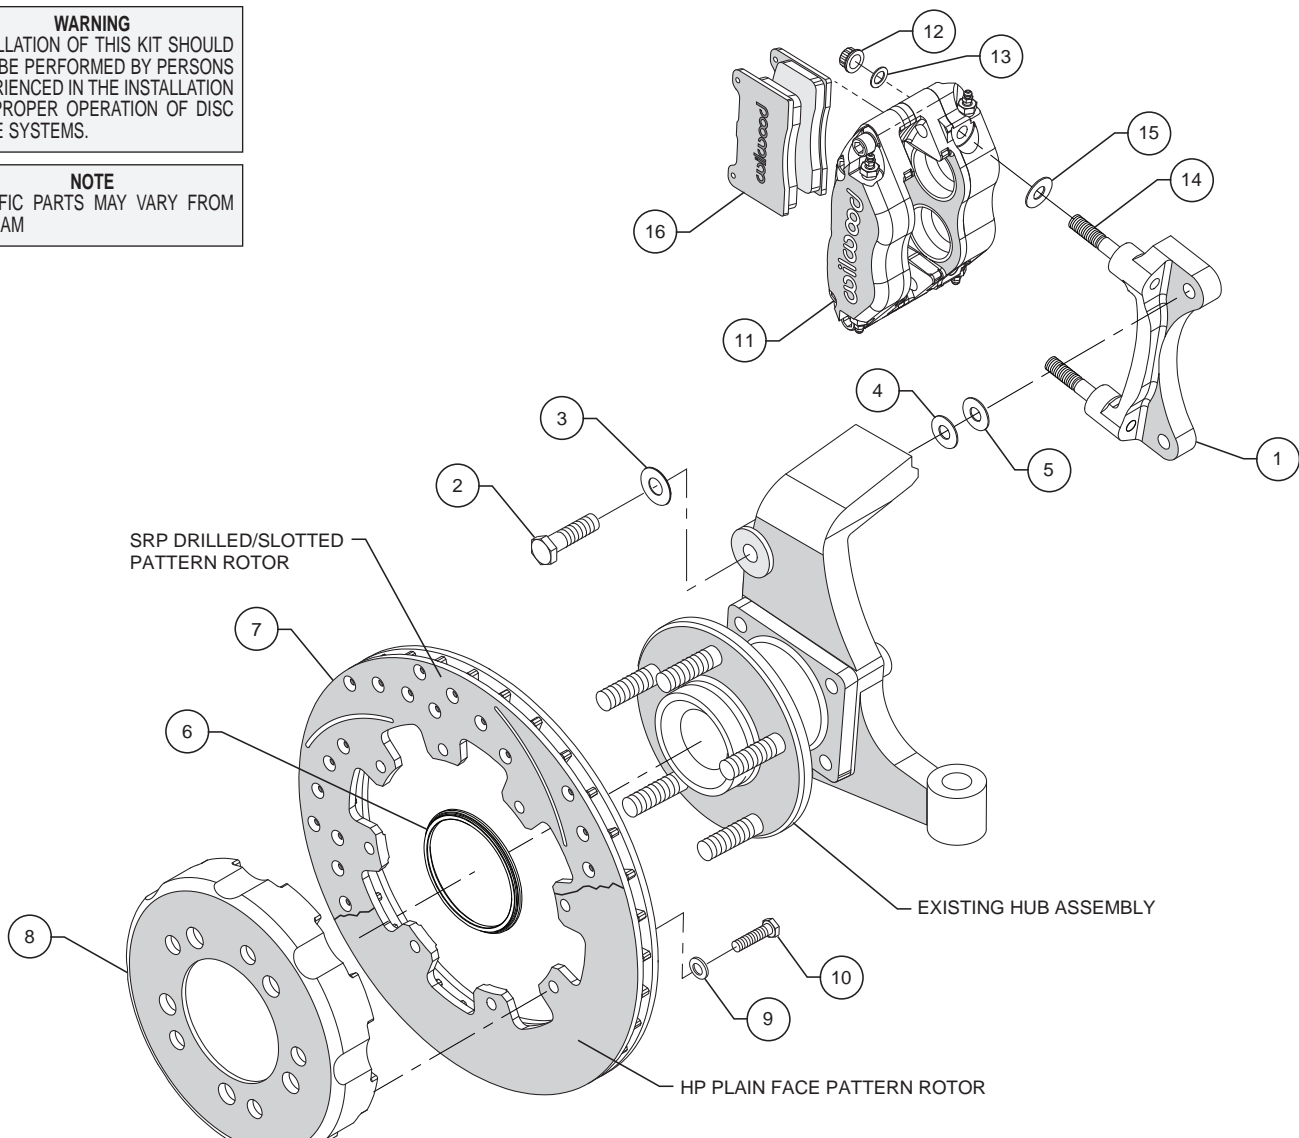
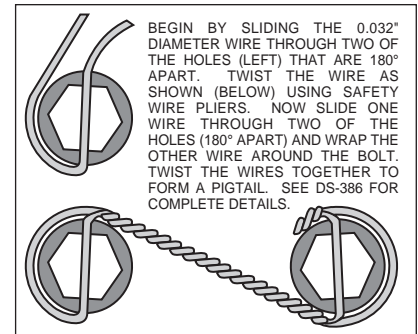

Figure 1. Typical Installation Configuration
Figure 3. Safety Wire Diagram
- The caliper mount bracket assembly (1) should be installed first with clean, dry threads on the mounting bolts. Install the bracket on the inboard side of the spindle by sliding bolt (2) through flat washer (3), and spindle ear from the outboard side of the spindle. Place two shim washers (4) between the bracket (1) and the spindle (see figure 1). The bracket must tighten squarely against the inboard side of the caliper mount bosses on the spindle body. Inspect for interference from casting irregularities, machining ridges, burrs, etc. Later, after the caliper, pad, and rotor alignment has been checked, and any necessary shims have been put in place, the mount bolts should be coated with red *Loctite*® 271 and torqued to 65 ft-lbs.
- With the larger I.D. side of the rotor (7) facing away from the hat (8), bolt the rotor (7) to the hat (8) through the backside of the rotor using washers (9) and bolts (10) provided in the configuration pictured in figure 1. Using an alternating sequence, apply red *Loctite*® 271 to the threads and torque bolts to 25 ft-lb. For an added measure of security, the bolts may be safety wired using standard 0.032 inch diameter stainless steel safety wire as shown in Figure 3. Please refer to Wilwood's data sheet DS-386 (available at www.wilwood.com/Pdf/DataSheets/ds386.pdf) for complete safety wire installation instructions.
- Slide the rotor registration adapter (6) onto the axle register on the axle flange with the smaller O.D. facing toward the hat (8).
- Lubricate caliper mounting studs (14) and nuts (12) with lightweight oil. Install two shims (15) over each stud (14) on the radial mount bracket. Slide the caliper (11) in place over the studs and rotor and install the washer (13) and lock nut (12) to hold the caliper in place. Snug the lock nuts (12) and check that the rotor (7) is centered in the caliper (11). Add or subtract shims (4 and/or 5) as necessary between the mount bracket and the spindle to center the caliper.
- Remove the caliper quick-clip pad retainer from the caliper. Slide the brake pads (16) into place. They should install easily without interference. Check that the outside radius of the brake pad is flush with the outside diameter of the rotor face. Add or subtract shims (15) between the caliper and mount bracket to gain the proper alignment. Reinstall the quick-clip pad retainer.
- Once all clearances have been checked, remove the wheel, caliper, hat, and rotor from the spindle and hub. Secure the caliper mounting bracket (1) to the spindle using red *Loctite*® 271. Torque the bolts to 65 ft-lbs. Reinstall the hat and rotor assembly and again use several lug nuts to hold it in place. Reinstall the caliper, torque the caliper nuts (12) to 30 ft-lbs.
- Install braided flexline kit part number 220-6746 (not included). The 10mm x 1 to -3 (P/N 220-6890) male fitting installs to the stock bulkhead. Then install the straight 1/8-27 to -3 NPT (P/N 220-6956) fitting into the caliper (11). Finally, install the flex line (P/N 220-6746) to the two previously installed fitting. **Carefully route lines to prevent contact with moving suspension, brake or wheel components.** Wilwood hose kits are designed for use in many different vehicle applications and it is the installer's responsibility to properly route and ensure adequate clearance and retention for brake hose components.